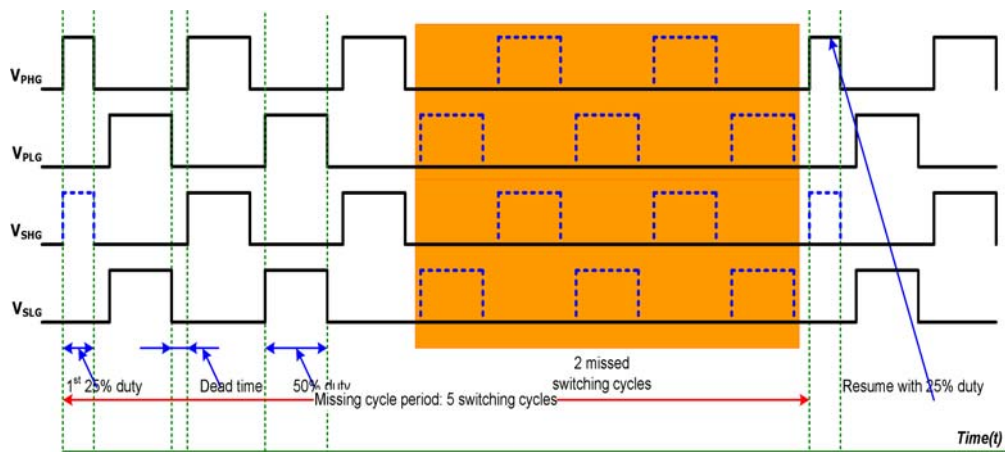

Figure 11 ICE2HS01G gate output during Missing Cycle
If the current sense voltage is lower than the preset reference level on VMC pin for 20ms, IC enters into a Missing Cycle (MC) mode, where every two out of five switches are removed to reduce the average switching frequency. VREF pin is the output of internal reference voltage, which is an accurate 5V voltage source, with up to 2 mA. A typical output gate drive waveforms in MC mode is shown in Figure 11.